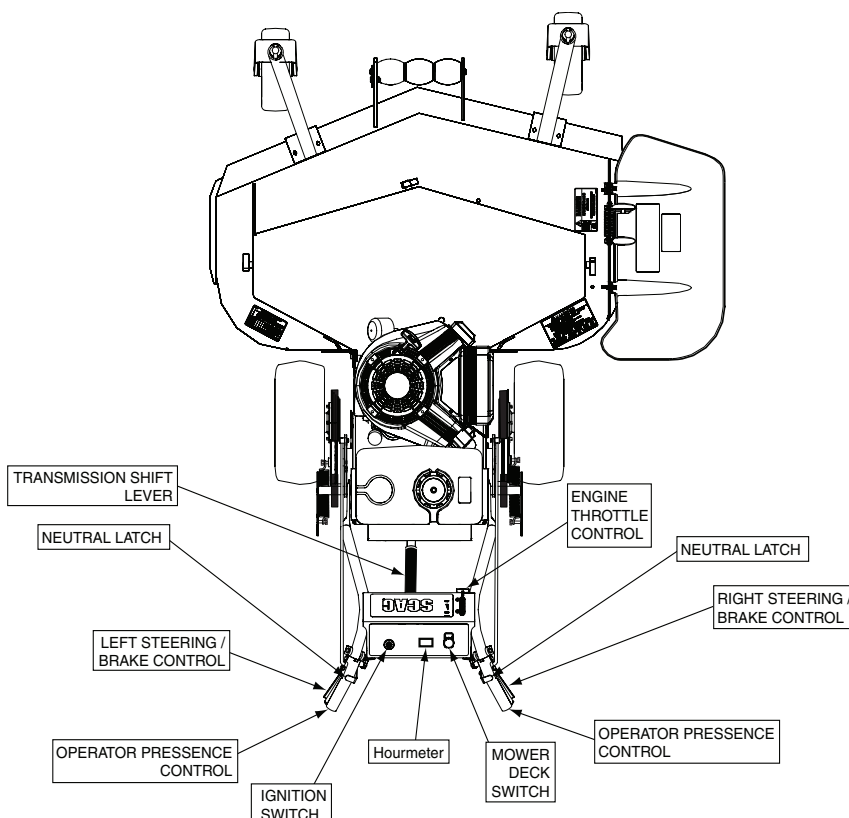

Figure 4-1. Controls and Instruments
1. **Ignition Switch (Figure 4-1).** The ignition switch is used to start the engine. Turn the key to the on position before pulling the recoil starter.
2. **Mower Deck Switch (Figure 4-1).** Used to engage and disengage the mower drive system. Pulling up on the switch will engage the deck drive. Pushing down on the switch will disengage the deck drive.
3. **Engine Choke Control (Figure 4-1).** Used to start a cold engine.
4. **Engine Throttle Control (Figure 4-1).** Used to control the engine speed. Pushing the lever forward increases engine speed. Pulling the lever back decreases engine speed. Full back position is the IDLE position. Full forward is the cutting position.
5. **Left Steering / Brake Control (Figure 4-1).** Used to control the mower's left wheel when traveling forward or reverse. Pull upward to apply brake.
6. **Right Steering / Brake Control (Figure 4-1).** Used to control the mower's right wheel when traveling forward or reverse. Pull upward to apply brake.
7. **Hourmeter (Figure 4-1).** Indicates the number of hours the engine has operated. It operates whenever the engine is running. Has preset maintenance reminders for engines and hydraulic system oil changes. Will start flashing scheduled maintenance 2 hours before preset time and continue flashing until 2 hours after. Automatically resets.
8. **Transmission Shift Lever (Figure 4-1).** Used to select the forward speed or selecting reverse. The machine must be at a complete stop before shifting between gears or shifting between forward and reverse.
9. **Neutral Latch (Figure 4-1).** Used to secure the belt drive system in neutral. Apply neutral latches when parking the machine.
10. **Operator Presence Control (Figure 4-1)**